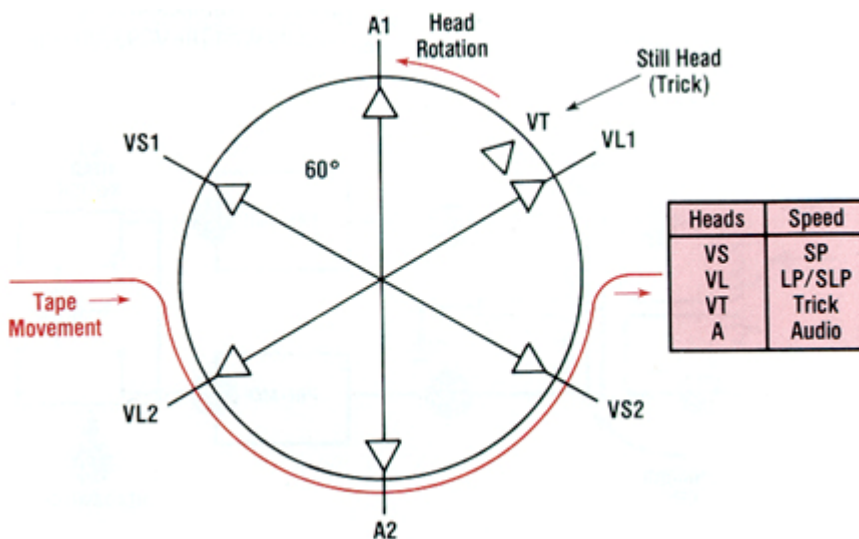

Fig. 6: Four-head VCRs select a different head pair based on tape speed.
VCRs that have four video heads still use only two heads to produce the picture. However, different head pairs are selected depending on the playback speed (Figure 6). One pair is used for the fastest playback speed (SP), while the other pair is used for the remaining speeds. A "head selector" chooses which head pair is used. Problems in the head selector may produce a bad head symptom. If the deck has an odd number of heads (three or